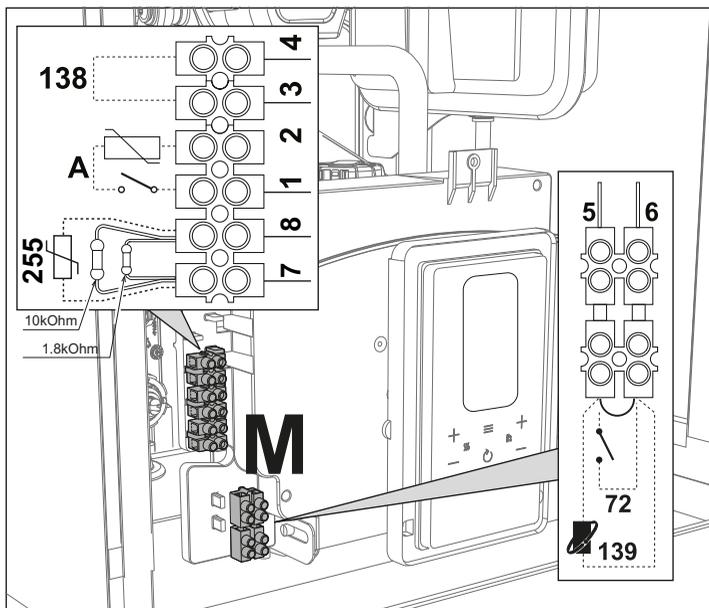

fig. 28
Remove the front panel (*** 'Opening the front panel' on page 326 ***) to access the terminal block (M) and fuse (F) by proceeding as follows (and fig. 28). **The terminals indicated in must be with voltage-free contacts (not 230V).** The arrangement of the terminals for the various connections is also given in the wiring diagram in fig. 64.
ON/OFF switch configuration (A fig. 28)